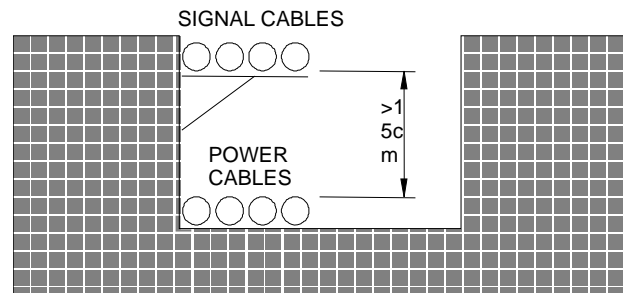

Fig. 9.9 - Cable Rack in Pit
- 2 - Provide a clearance between signal and power cables by making use of a cable rack as shown in Figure 9.9 and 9.10.